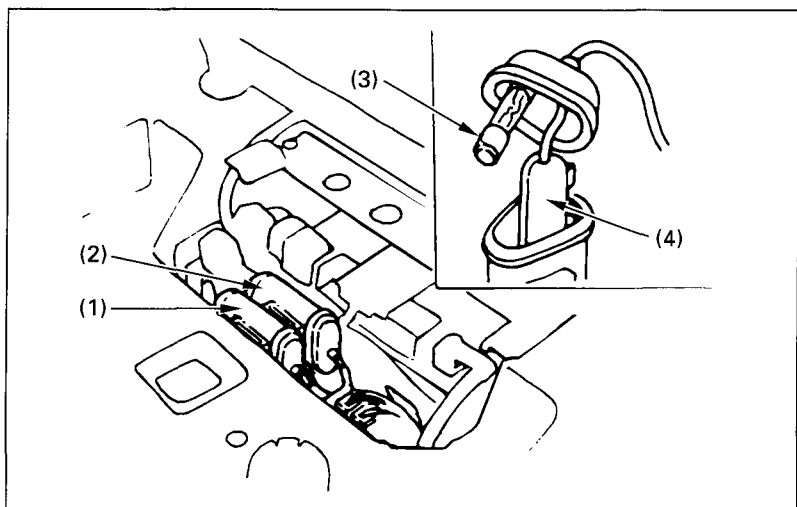

Fig. 4-22
As illustrated in Fig. 4-22, the main fuse (1), the sub fuse (2) and the spare fuse (3) are located in the battery compartment. (The main fuse is connected to the red wire.)